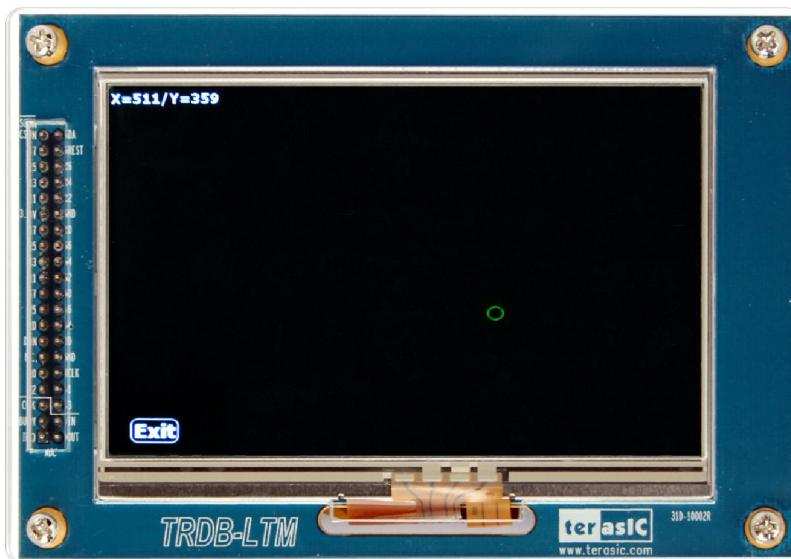

Figure 4.22 Touch sub item of the DE2-115 LTM Starter demonstration
- Under each sub item, touch the **Exit** button on the left bottom corner will lead you back to the main interface. Figure4.22 and 4.23 give photos of sub items when running the DE2-115 LTM Starter demonstration